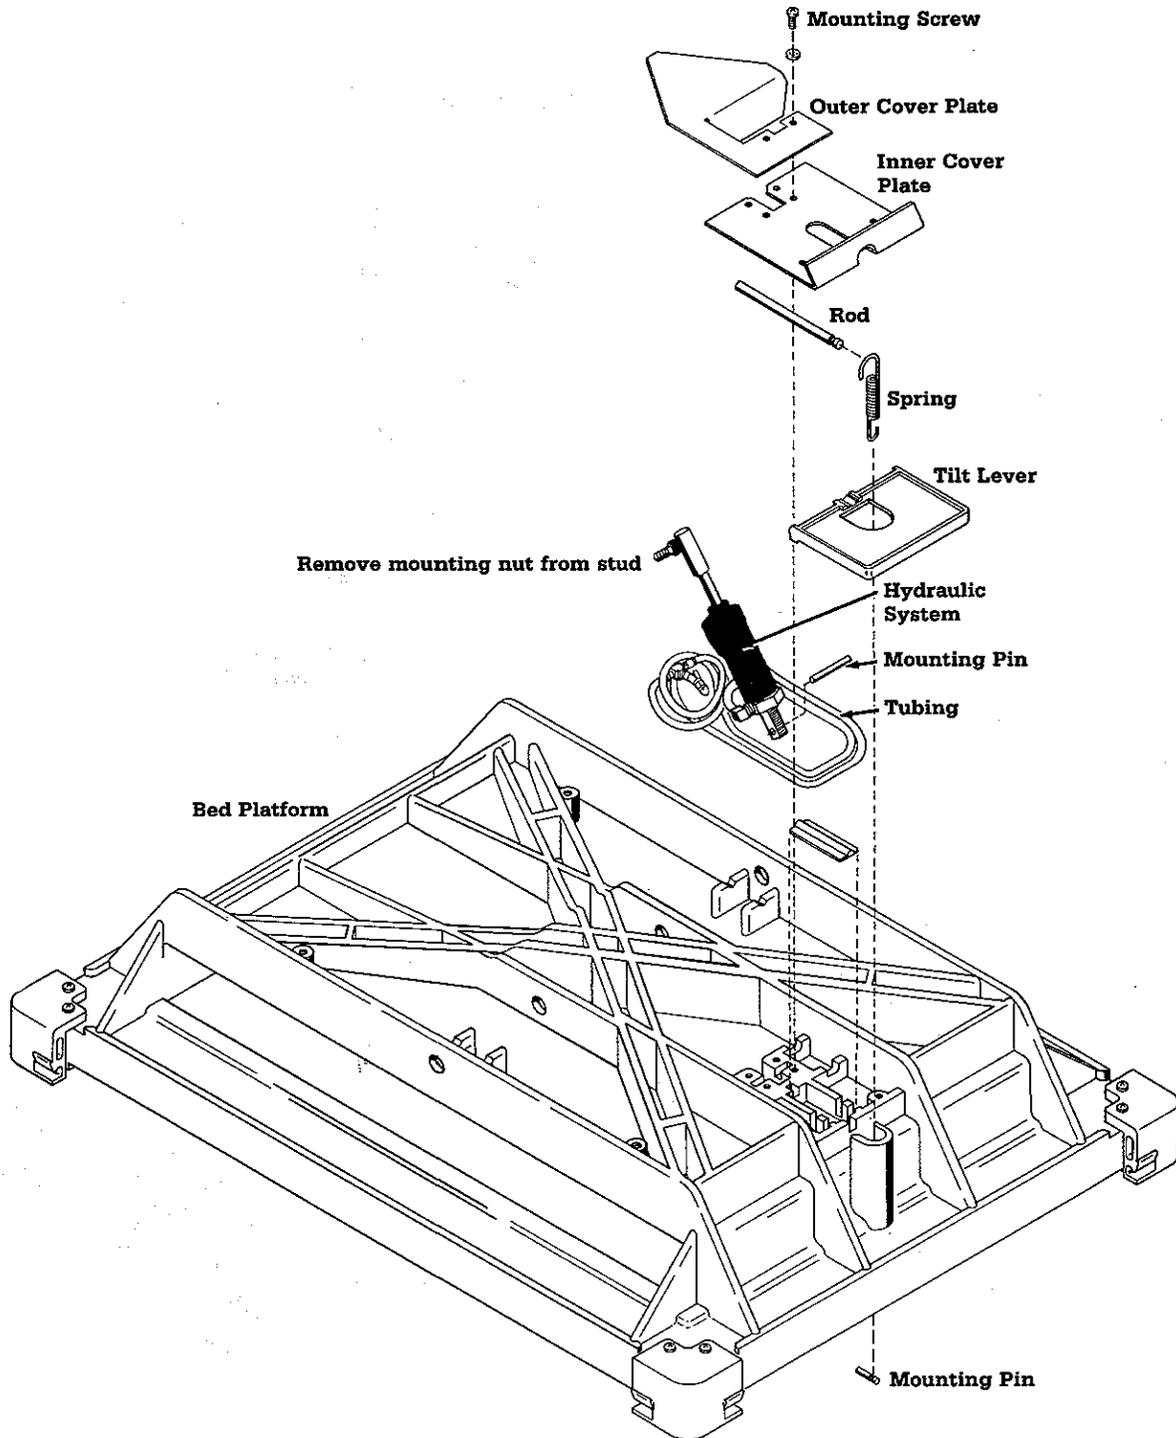

Figure 5-13
E. Hydraulic System Removal (Figures 5-13 and 5-14)
F. Hydraulic System Installation (Figures 5-13 and 5-14)